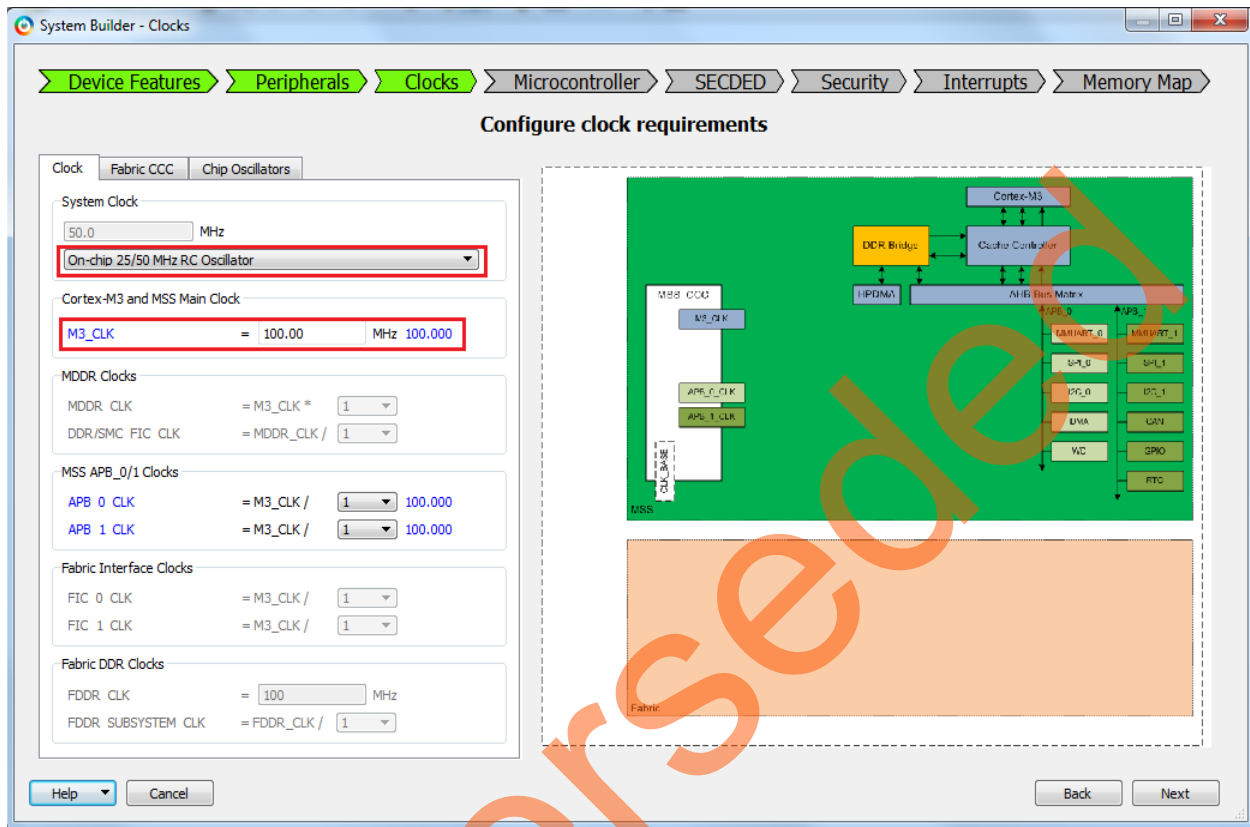

Figure 10 • System Builder – Clocks Page
13. Click **Next**. The **System Builder – Clocks** page is displayed, as shown in Figure 10. Select **System Clock** source as **On-chip 25/50 MHz RC Oscillator**. The M3_CLK is configured to 100 MHz by default.